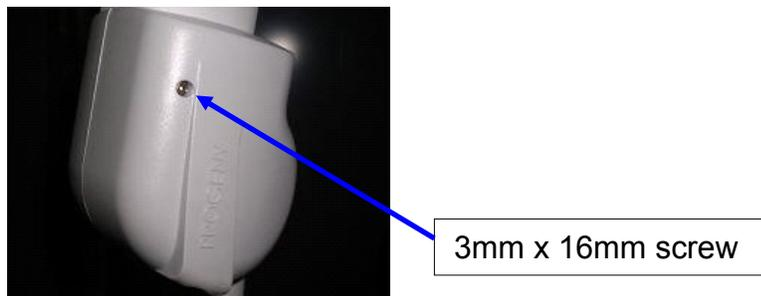

Figure 42
5. Press the two matching covers together and secure with the 3 mm x 16 mm screw provided in the package. Use a 3 mm hex wrench to tighten (see Figure 42 on page 25).